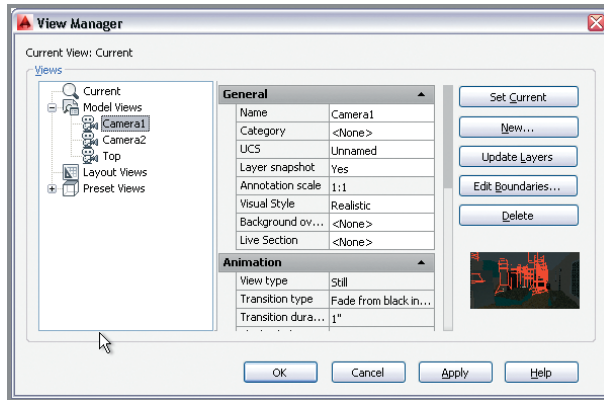

FIGURE 18.10 Selecting a predefined camera view
13. Type **V** (for View), and press Enter. Double-click Camera 1 in the View Manager (see Figure 18.10). Click Apply and OK.